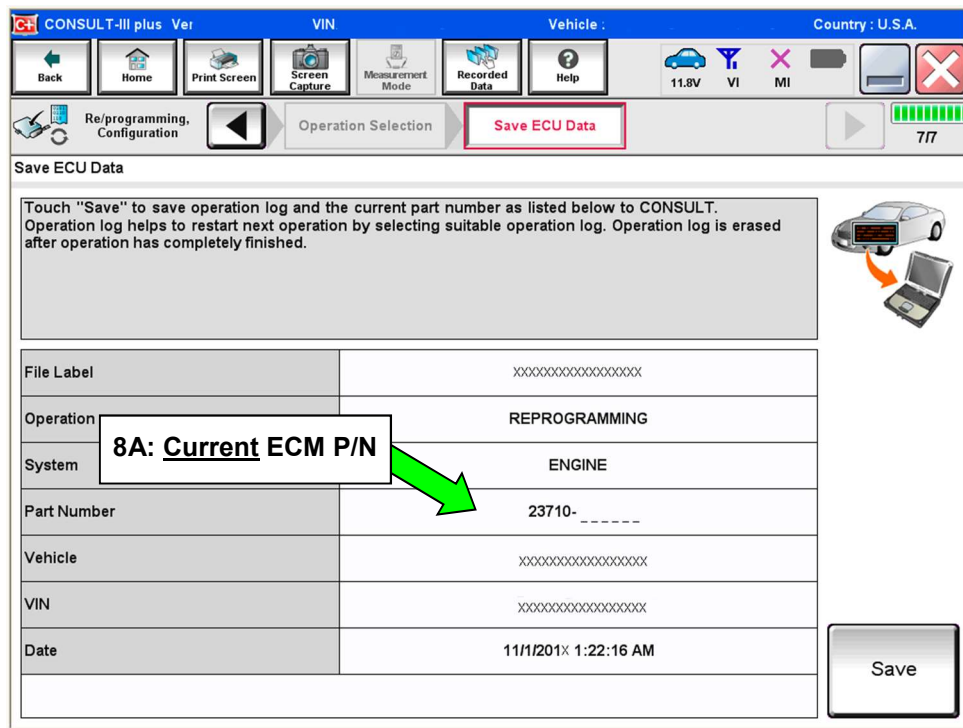

Figure 2
7. Follow the on-screen instructions and navigate the C-III plus to the screen shown in Figure 2 on the next page.
8. When you get to the screen shown in Figure 2, confirm this bulletin applies as follows.